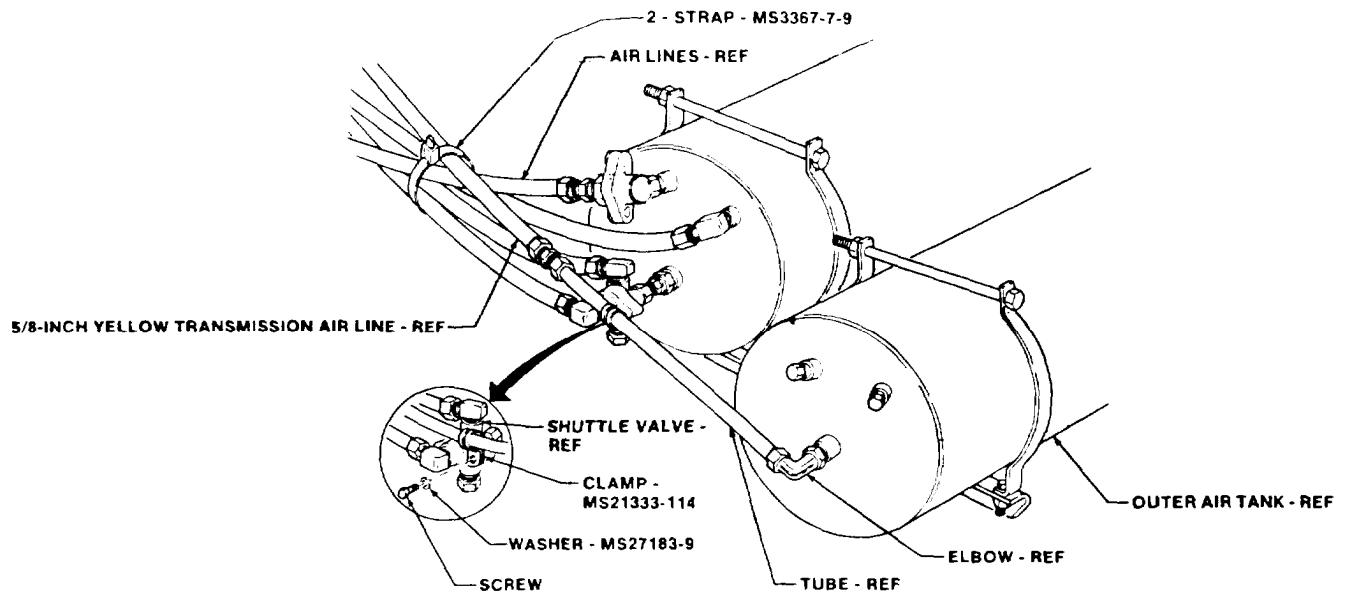

FIGURE 12
(18) Remove screw from shuttle valve and install MS21333-114 clamp around tube and secure tube to shuttle valve with screw and MS27183-9 washer as shown in figure 12.
(19) Secure 5/8-inch yellow transmission air line to air lines with MS3367-7-9 strap as shown in figure 12.